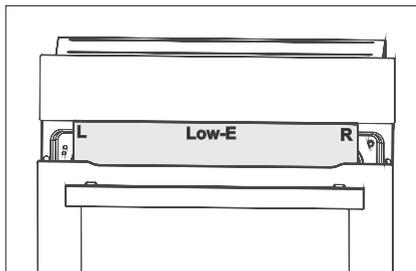

Fig. 40
*Ensure that the L-R or Low-E inscriptions on the glass may be read straightly from the exterior of the oven while installing the intermediate glass of the oven (Fig. 40).*